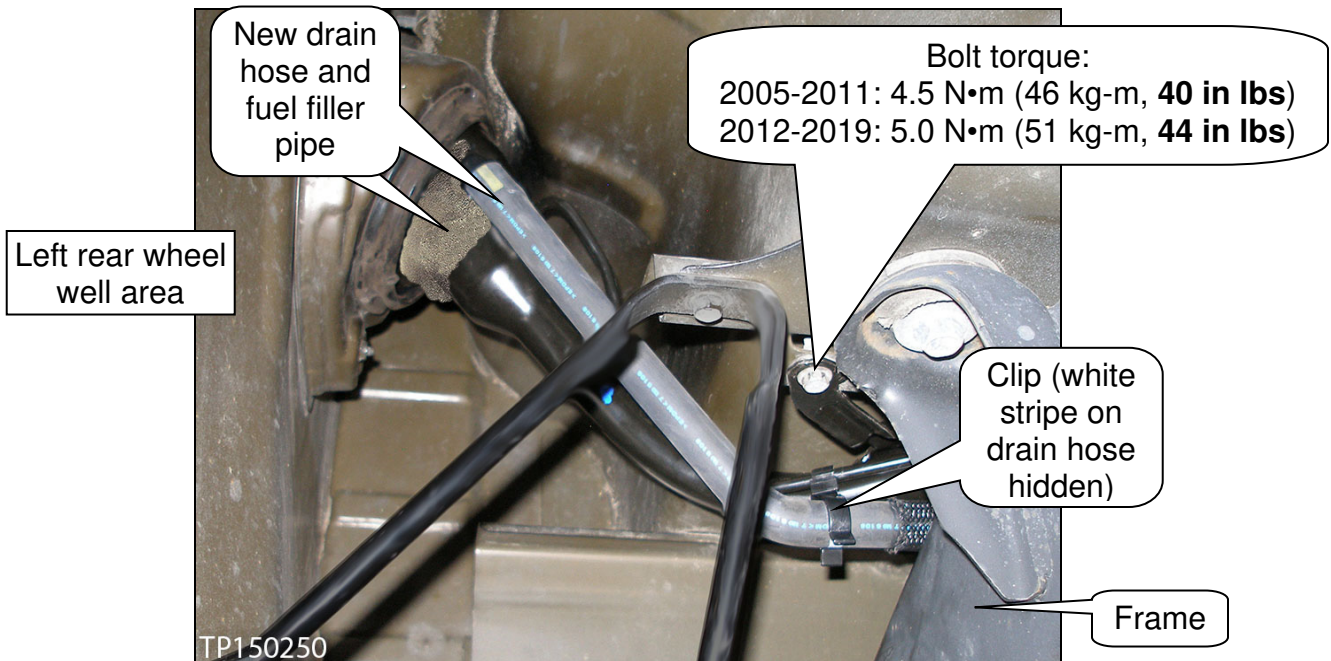

Figure 10: King Cab and long wheel base Crew Cab
4. Connect and route the new drain hose to the fuel filler pipe (see Figures 10 and 11, as they apply).